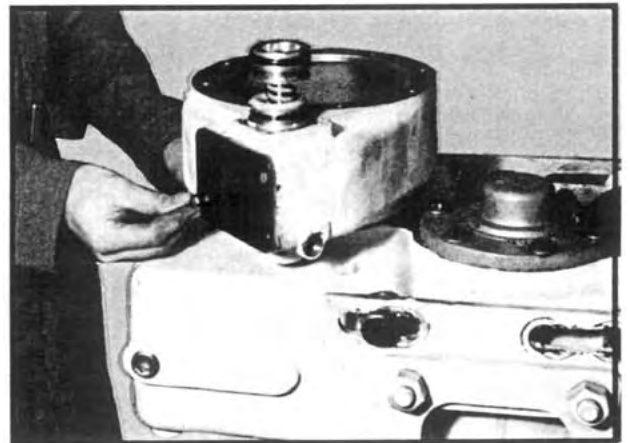

Fig 64
7. Install the declutch housing cover with a new gasket. See Figure 64. Torque the (4) cap screws to specification.